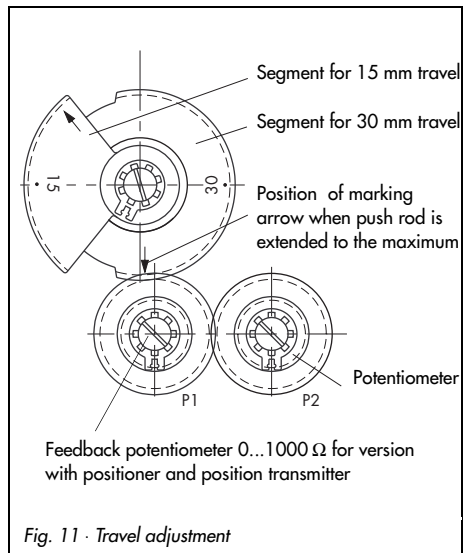

Fig. 11 · Travel adjustment
3. Turn the associated gear segment around its axis according to the nominal travel of the control valve (15 or 30 mm) until the marking arrow is above the point where the gears mesh (Fig. 11).
4. Turn the associated gear segment around its axis according to the nominal travel of the control valve (15 or 30 mm) until the marking arrow is above the point where the gears mesh (Fig. 11).
The actuator can be equipped with either one or two potentiometers (Fig. 11), depending on its version. Actuators equipped with a positioner require a potentiometer (P1) for internal valve position feedback. Its resistance value cannot be used for external signaling purposes.
2. Depending on the nominal travel of the valve, turn gear segment 15 or 30 mm on its axis until the marking arrow is above the point where the gears mesh (Fig. 11).